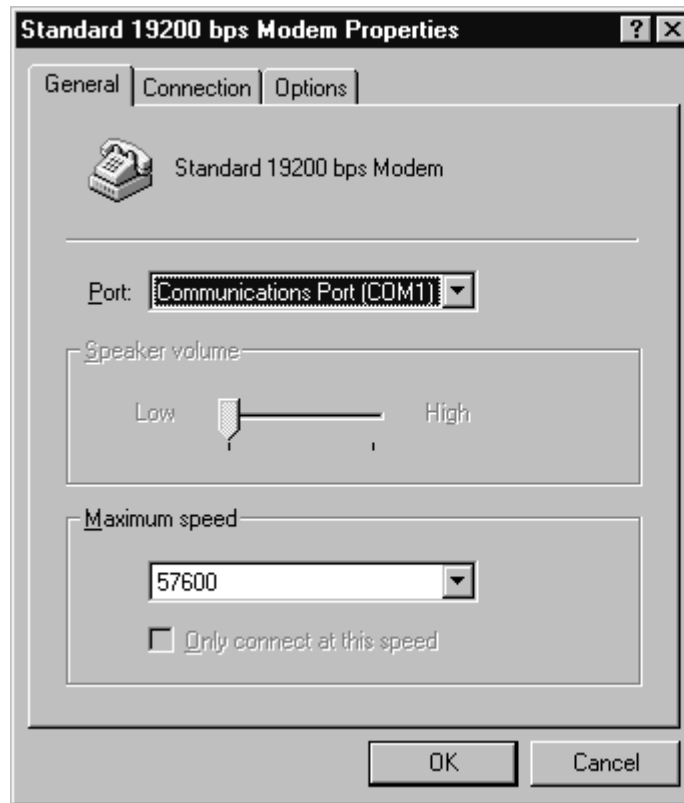

Figure 2-4. Dial-Up Networking Properties
2. In the SX TCP IP Demo dialog box, under the General tab, ensure that Standard 19200 bps Modem is selected at the bottom. See Figure 2-4.